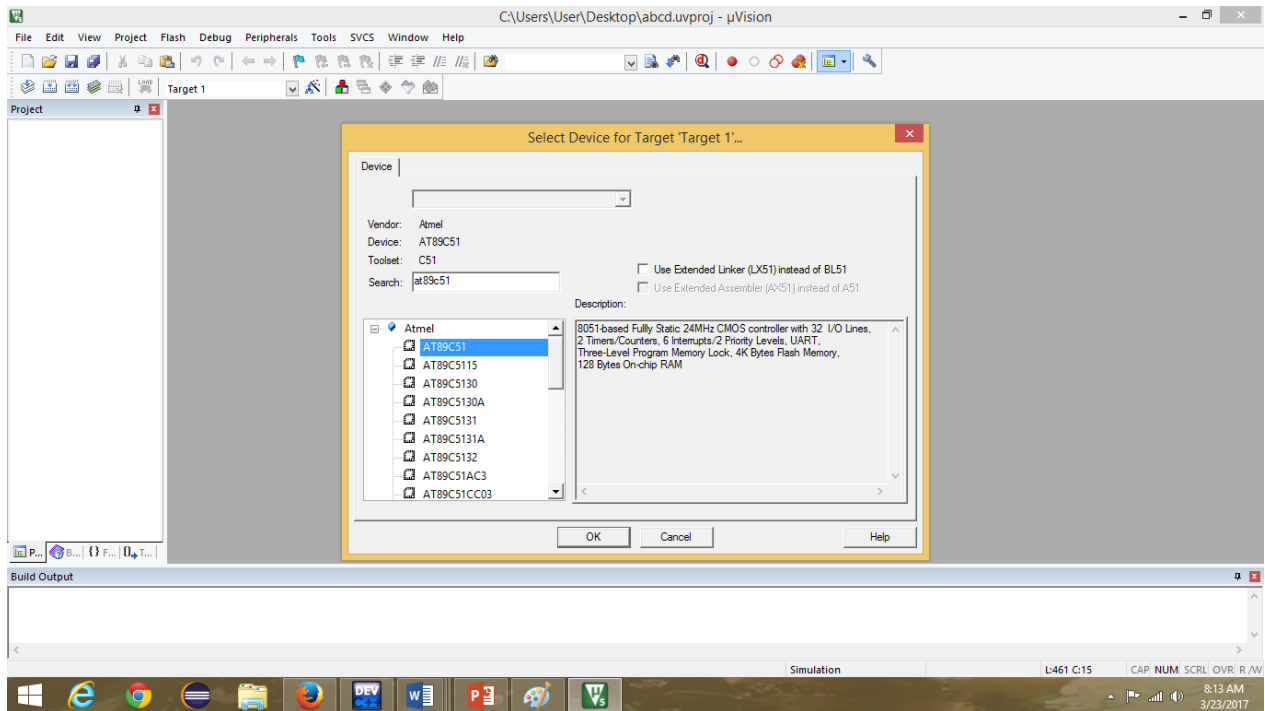

Figure 7
5. Select microcontroller you are going to use as shown in figure 7.